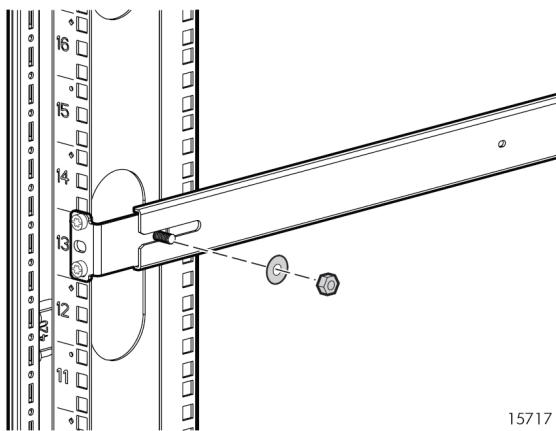

Figure 11 Fastening the rail to the rear mounting bracket
6. Fasten each slotted-rail end to the rear mounting bracket using a flat washer and a 1/4-20 hex nut (Figure 11).